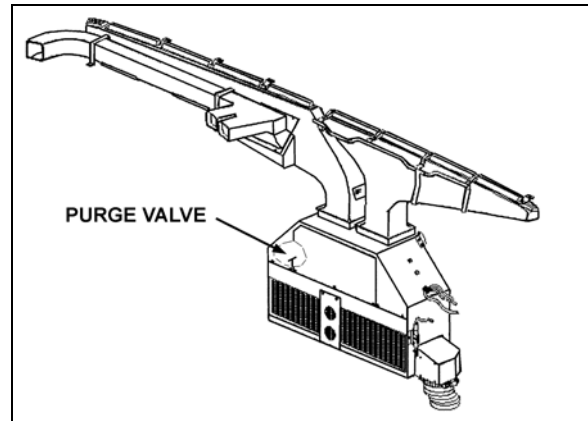
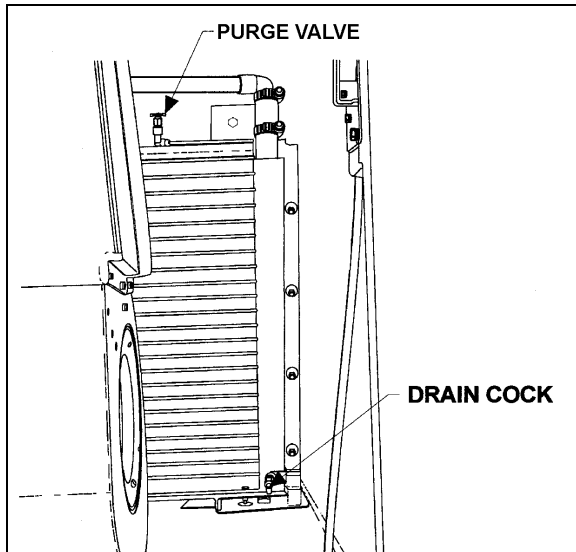

FIGURE 52: DRIVER'S UNIT AIR MIXING BOX 22171PV
FIGURE 53: PASSENGER'S UNIT HEATER CORE (H3 COACHES) 22229
4. From inside of vehicle, remove the grill and the access panels. Open the purge valve located inside the driver's unit (Figure 52) to ensure an efficient draining.
4. Open drain cock in bottom of heater core, then open purge valve located on top of heater core (Figure 53) in order to allow air to enter while draining.
Whenever the heating system has been drained and refilled, or the system has run low on coolant and coolant has been added, it is necessary to bleed air from heating system. Locate the purge valve illustrated in Figure 52 and Figure 53, and open them momentarily until no air escapes from the lines.